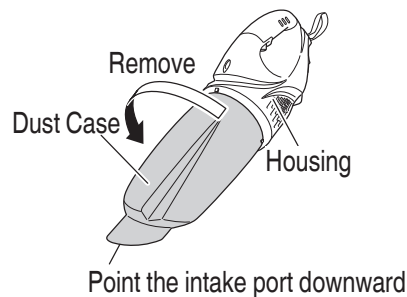

Fig. 17
1. Turn the dust case and pull it from the housing. (Fig. 17)